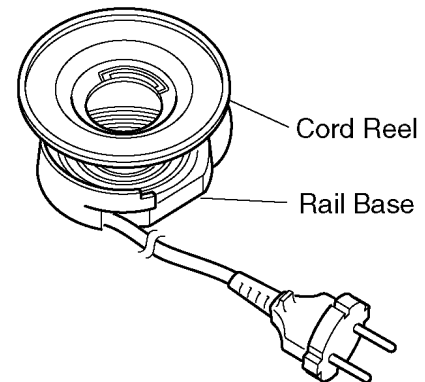

Fig.20
4. Pull out the rail base from the side of the cord. (Fig.20)
1. Fit the rail base unit attached to new power cord into the cord reel. (Fig.20)